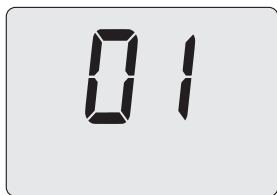

Figure 9.25
- By using buttons 15 or 16 (Figure 9.18) it is possible to modify the value of parameter A21 (Figure 9.25).